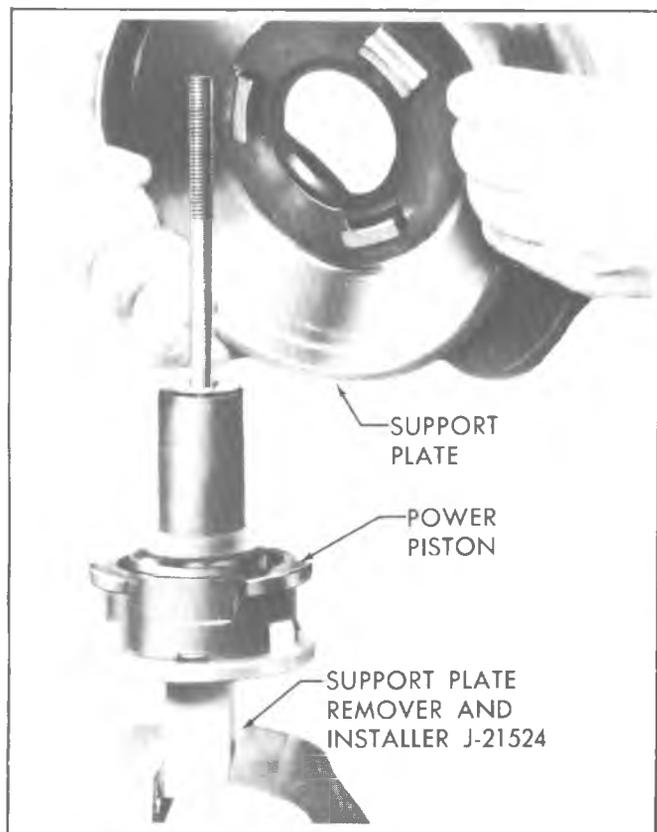

Fig. 5-10C--Removing Support Plate
7. Press down on support plate and rotate counterclockwise until support plate separates from power piston (fig. 5-10C).
tube of power piston. The flange of diaphragm will fit into groove on power piston (fig. 5-10C).
16. Press down and rotate support plate clockwise, until lugs on power piston come against stops on support plate (fig. 5-10C).